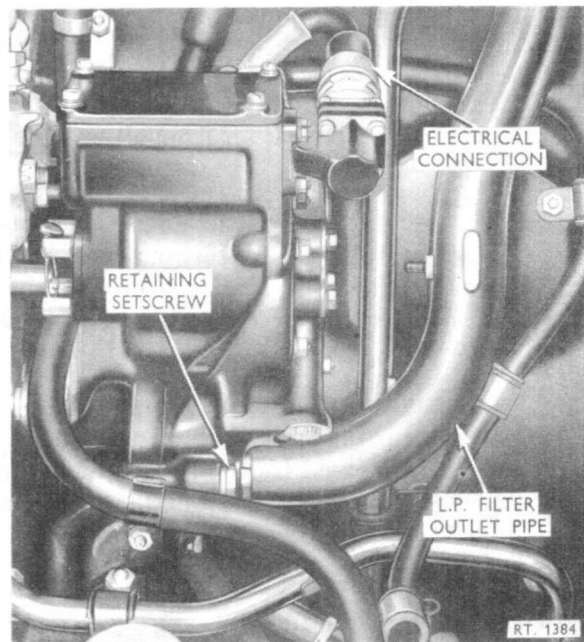

Fig. 2 De-icing switch
15. To remove the fuel filter de-icing switch (fig. 2), proceed as follows:—